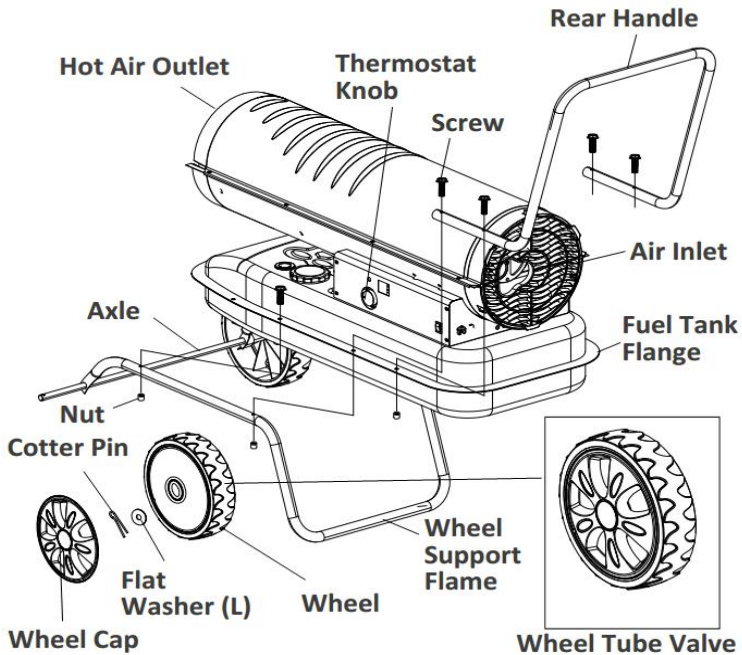

Figure 7. Assembly of Models ZB-K175/ZB-K215
2. Slide Wheels onto each axle, ensuring that the valve stem (if pneumatic) is to the outside (see Figure 7.)
3. Slide flat washers (L) onto the axle past the small hole. Insert the cotter pin in the axle hole and bend the pin's legs with needle nose pliers to secure.